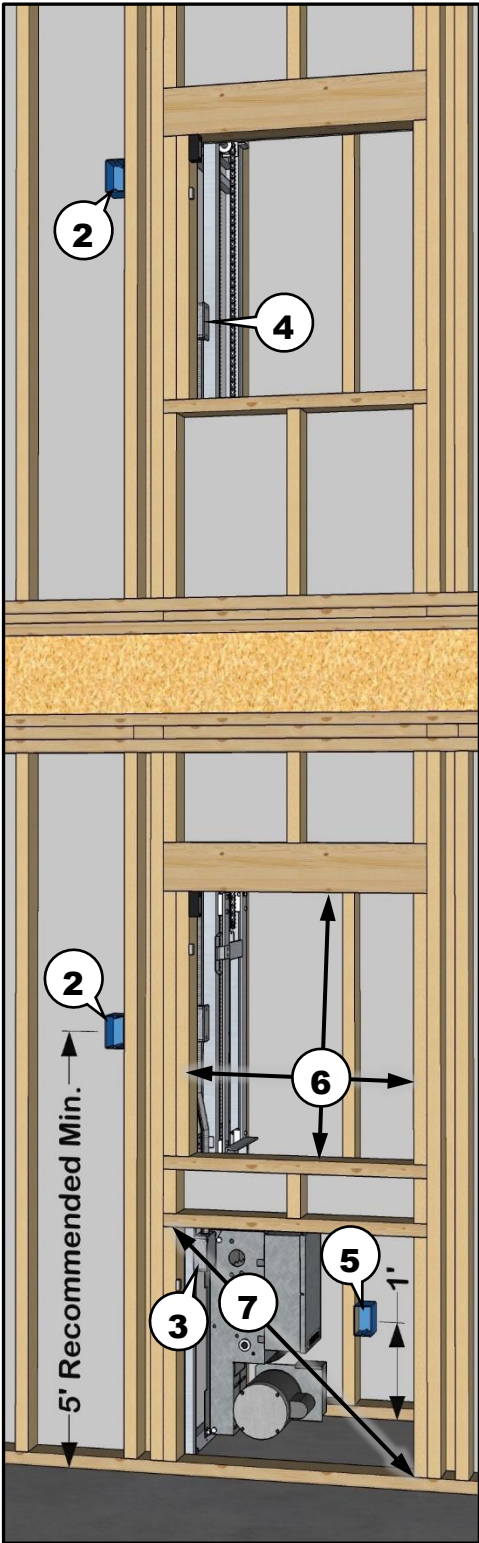

Figure 15
- 2** Place push button boxes per owner's instruction, making sure there is enough wire to reach the box. (see Figure 15)
- 3** Rough-in wire for push buttons from junction box to bottom floor push button box. (see Figure 15)
- 4** Rough-in wire for push buttons from top floor junction box to top floor push button box. (see Figure 15)
- 5** Install power supply junction box, on a dedicated 20A circuit, 12 inches (0.3 m) above floor on wall adjacent to mounting wall. (see Figure 15)
- 7** Removable access panel or door for servicing motor, brake, clutch, or car adjustment. (see Figure 15)